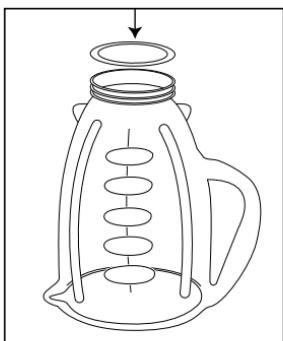

FIGURE 1
1. Turn jar upside down so the small opening is at the top. (*Figure 1*)
2. Place sealing ring over jar opening. (*Figure 1*)